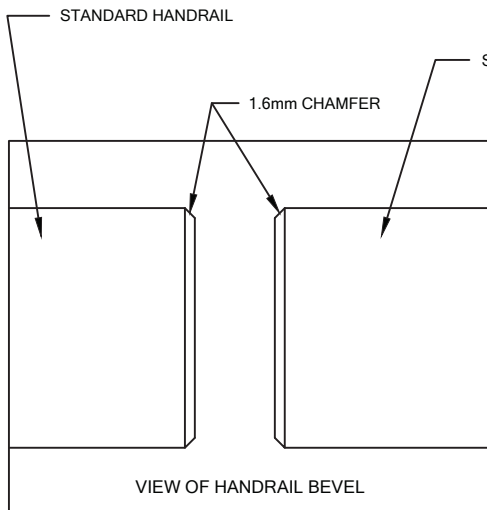

FIGURE 3.
1. DUE TO WOOD BEING A NATURAL PRODUCT, COMPONENTS MAY GROW AND SHRINK AT DIFFERENT RATES. BECAUSE OF THIS, C/S HAS DESIGNED THIS HANDRAIL TO UTILIZE A BEVEL AS SHOWN IN THESE INSTRUCTIONS (SEE FIGURES 3 & 4). THIS BEVEL MUST BE APPLIED AT ALL WOOD JOINTS AND MUST MATCH FACTORY BEVEL ON END CAPS.
3. EASE WOOD EDGES ON CUT HANDRAIL END SLIGHTLY WITH 150 GRIT SANDPAPER (SEE FIGURE 3) TOUCH UP SANDED EDGES WITH STAIN PENCIL.
1. EASE WOOD EDGES SLIGHTLY WITH 150 GRIT SANDPAPER (SEE FIGURE 3). TOUCH UP SANDED EDGES WITH STAIN PENCIL.